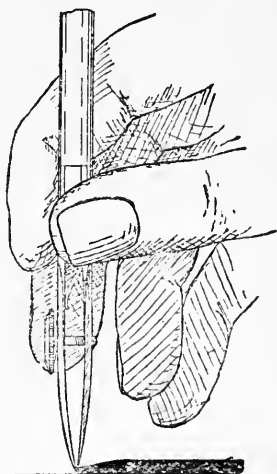

Fig. 5.—Using a Draughtsman's Ruling Pen
on brown mounts, a simple line of white being run round on the mount half an inch or more from the picture. Such lines can be drawn with diluted chinese white used in a draughtsman's ruling pen (Fig. 5), but the job needs to be done quickly, as the white soon clogs the pen and frequent cleaning out will be necessary. An ordinary writing-pen nib may also be used. For gold lines on picture mounts, rule the lines with gum water, allow to set, but not to dry, breathe on them, and at once dust over them some gold bronze powder; a better and more permanent effect is obtained by dabbing gold leaf on the gum lines, in which case the gum needs to be strong and to have a little sugar dissolved in it. Edges of mounts can be gilt in the same way, or strips of gold paper may be gummed on.
**Folding Book Rack.**—The book rack shown in Fig. 5 is a base with plain or bevelled edges and two hinged ends. If desired these ends can be permanently fixed upright by means of screws inserted from underneath. Fig. 5 is
Figs. 5 and 6.—Two Elevations of Folding Book Rack